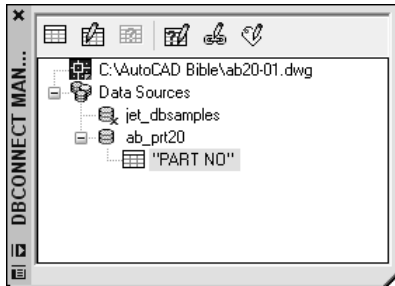

**Figure 20-8:** Displaying a database table in the dbConnect Manager palette.
1. Ab20-01.dwg should still be open from the previous exercise. If there's a plus sign next to ab20-prt, click it to display the "PART NO" table. The dbConnect Manager should look similar to Figure 20-8.